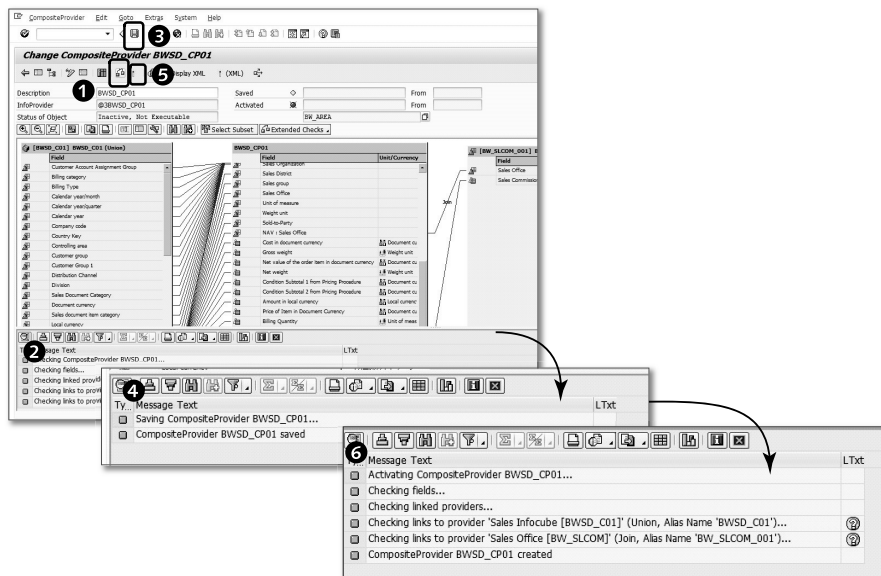

Figure 6.74 Saving and Activating a Composite Provider
Check the CompositeProvider using the CHECK icon (1 of Figure 6.74), and take note of the system messages in the information panel that gets generated below (2). When there are no errors reported, save the CompositeProvider by clicking on the SAVE icon in the menu bar (3), and note the system messages in the information panel that gets generated below (4). Finally, activate the CompositeProvider by using the ACTIVATE icon (5), and note the system messages in the information panel that generated below (6).